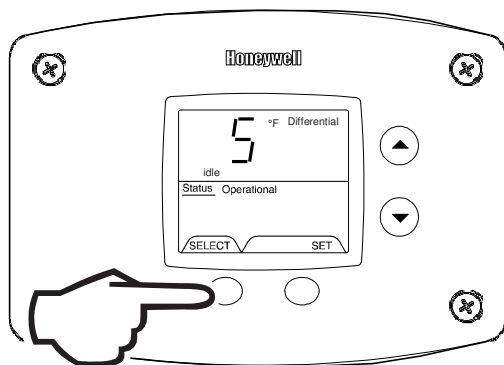

Fig. 36
6. Differential (Display only – shows the differential of the thermostat) (Fig. 36).